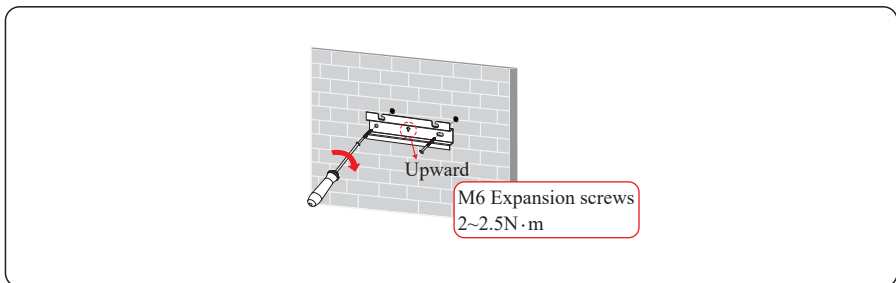

Figure 4.13 Installing the mounting bracket
Step 5 Align the mounting bracket with the holes, insert expansion bolts into the holes through the mounting bracket, and tighten the expansion bolts to a torque wrench (torque  $2\sim 2.5\text{ N}\cdot\text{m}$ ), as shown in Figure 4.13.